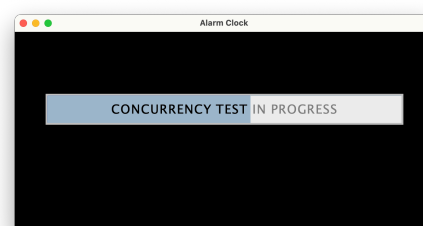

Figure 1.3: Emulator in test mode.
15. The emulator also includes a test mode (figure 1.3), designed to detect a particular type of race condition. In this mode, the emulator generates time changes (`UserInput` objects) at a high rate, quickly alternating between 00:00:00 and 12:34:56. The test is started by pressing 'T' and runs for 30 seconds.